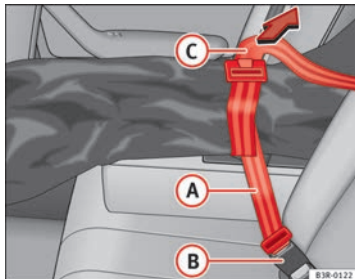

Fig. 116 Securing the ski bag on the centre seat belt buckle on the rear seat bench
- Insert the fastening belt (A) ⇒ Fig. 116 of the ski bag into the centre seat belt buckle (B).
- Pull the free end of belt (C) to tighten.